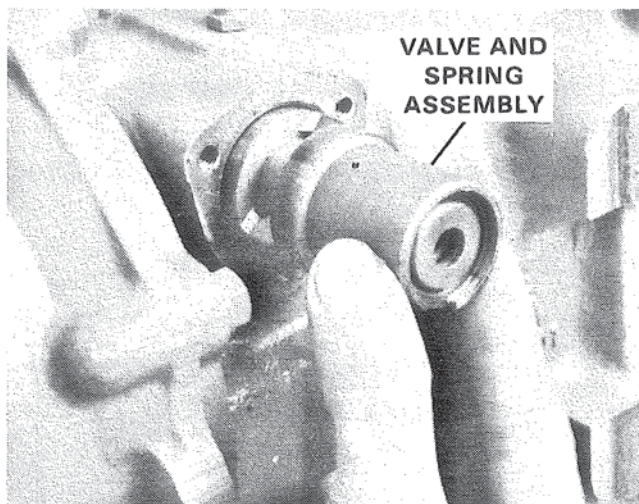

Figure 4. Removing Valve and Spring Assembly.
3. Tap with soft hammer on exposed threaded shaft upon which shift lever was mounted, and pull valve and spring assembly out of case from right side. Figure 4.